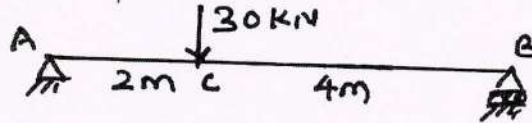

Fig Q4(b)
- b. Using Conjugate beam method determine maximum slope and maximum deflection for the simply supported beam shown in Fig Q4(b). $E = 204 \times 10^6 \text{ kN/m}^2$ and $I = 50 \times 10^{-6} \text{ m}^4$.